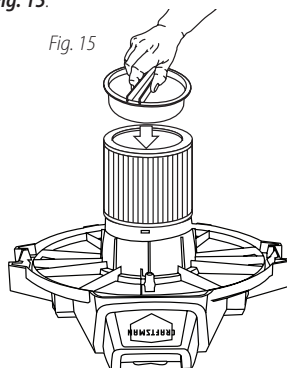

Fig. 15
34. Place filter retainer **15** into the top of the cartridge filter **14**. **Fig. 15**.